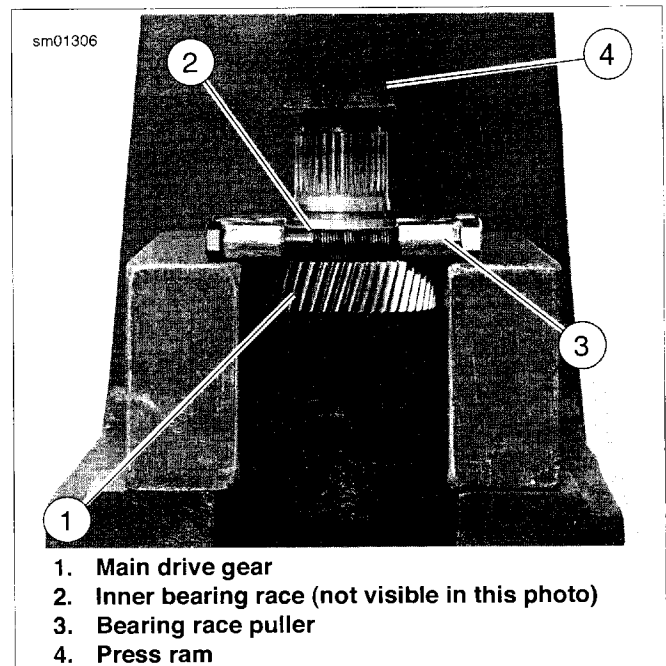

Figure 5-75. Removing Inner Bearing Race From Main Drive Gear (typical)
- See Figure 5-75. Attach BEARING RACE PULLER (Part No. HD-95637-46B) (3) to inner race (2) on main drive gear (1).